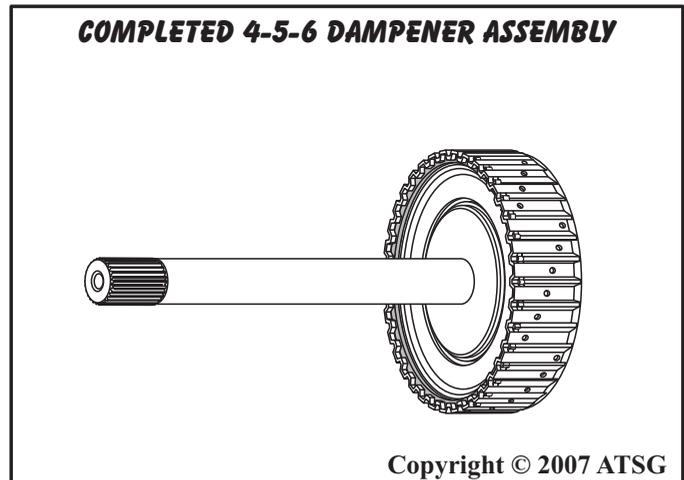

Figure 86
6. Set the 4-5-6 clutch dampener assembly aside for final assembly (See Figure 86).